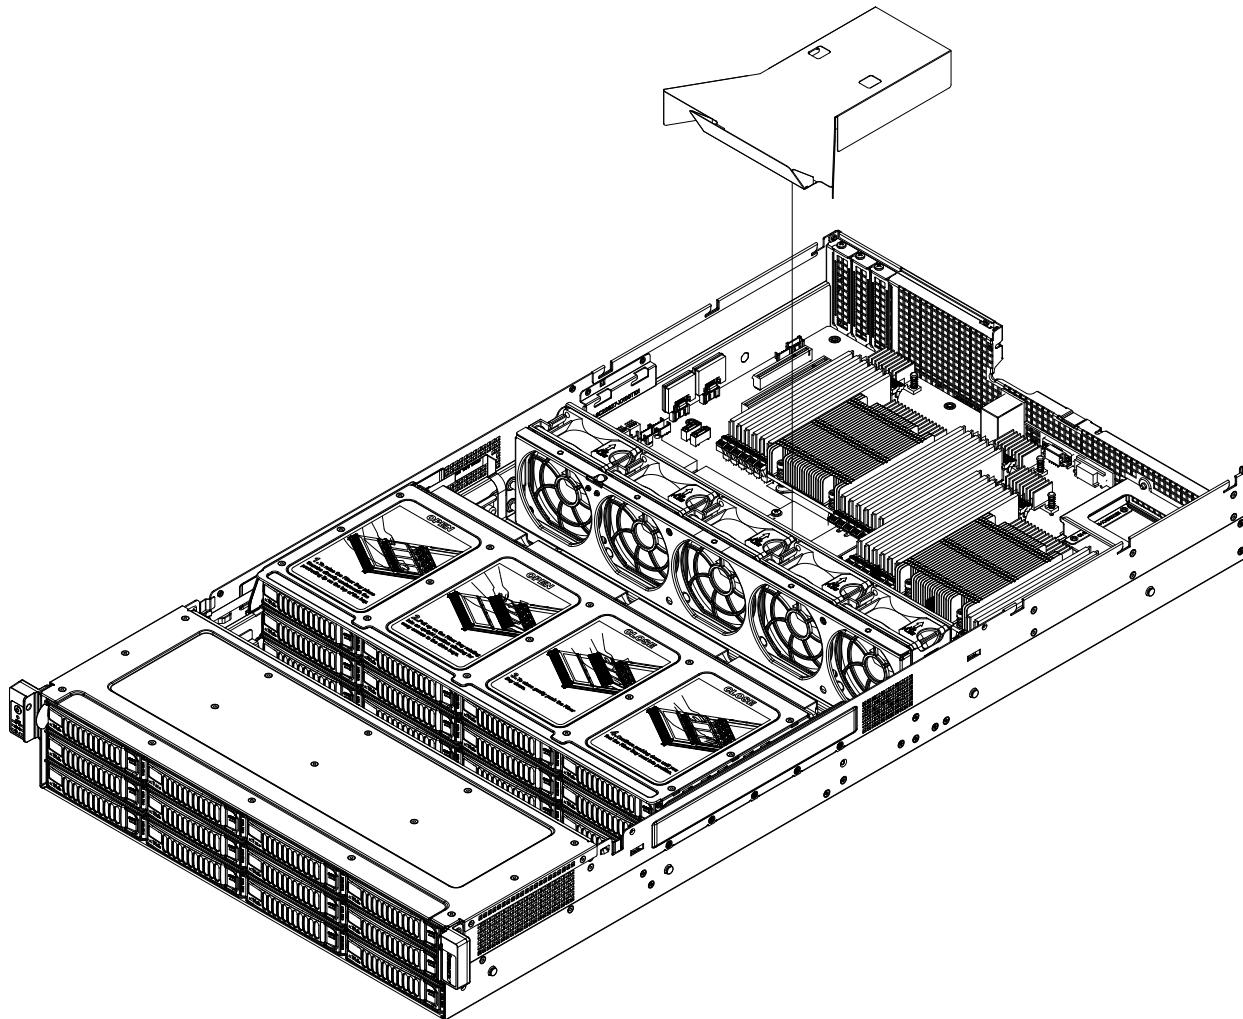

Figure 3-12. Mylar Air Shroud Installation
2. Place the large mylar air shroud in the chassis. It fits just behind the fans and under the power supply housing. (Figure 3-12).